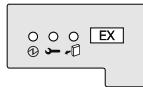

FIGURE B-8 Expander Label
The expander label (EX), shown in FIGURE B-8, is located at the center bracket for each eighteen (18) expander carrier panels on the front and rear of the system.